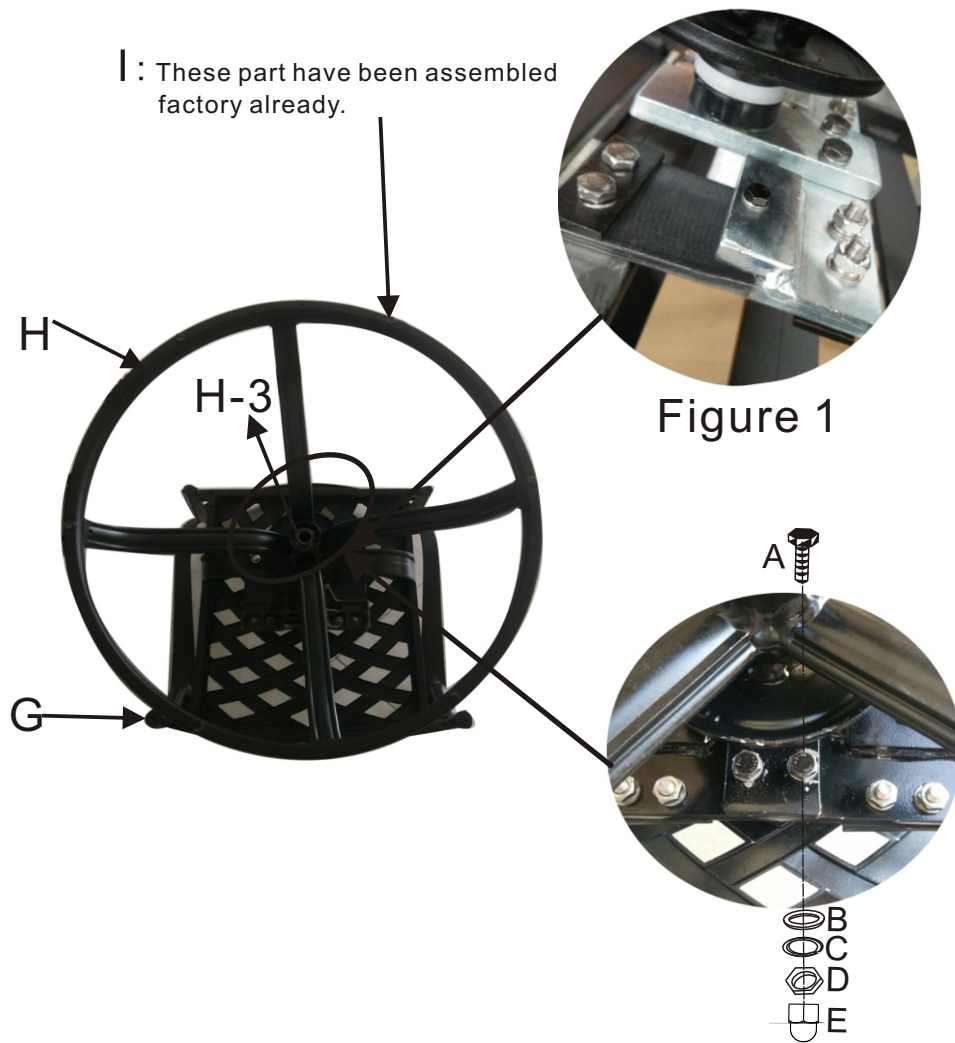

Figure 1
1. Before removing all protective packing material and position base on floor. Attach the base(H) onto the seat (G) using bolt(A), flat washers(B), lock washers(C), nuts(D) and nut cap(E). Be sure to the arrows face to front.
4. If the back rocking mechanism is too tight, you can loosen it by removing the adjusting block(G14) on the bottom of the TR. Please make sure proper assembly is done after adjusting the tightness. See figure 1
5. Put Cushion(J) on the unit(as shown in the picture).